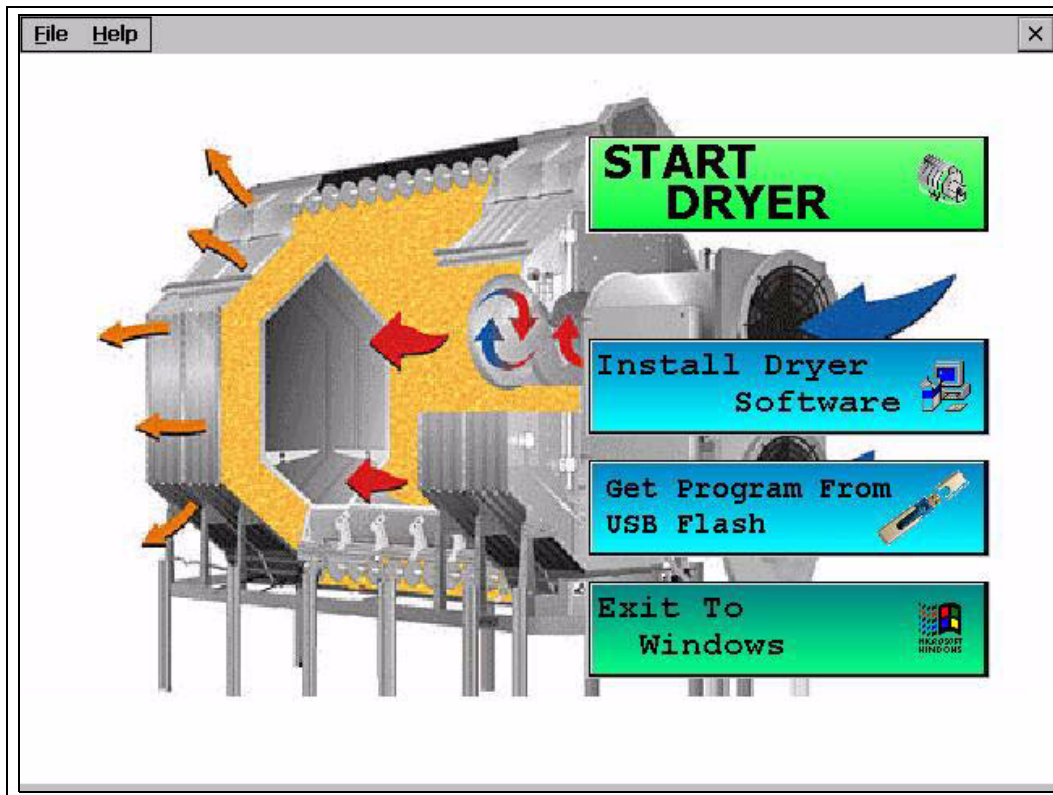

Figure 4A
Turning the Control Power switch to the ON position, will start the Vision computer. The first screen to appear will be the Boot Screen. Notice that there are four (4) buttons on the Boot Screen. (See Figure 4A.)